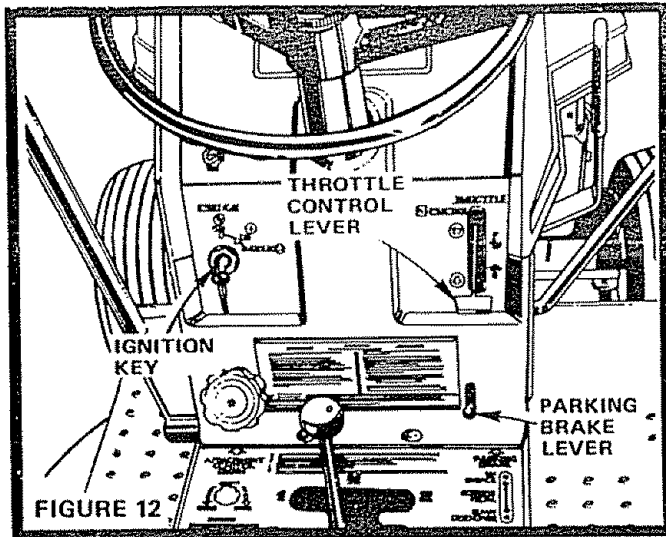

FIGURE 12
1. Push Clutch-Brake Pedal completely into "BRAKE" position. Raise Parking Brake Lever and hold in "ENGAGED" position (Fig. 12). Release Brake Pedal.